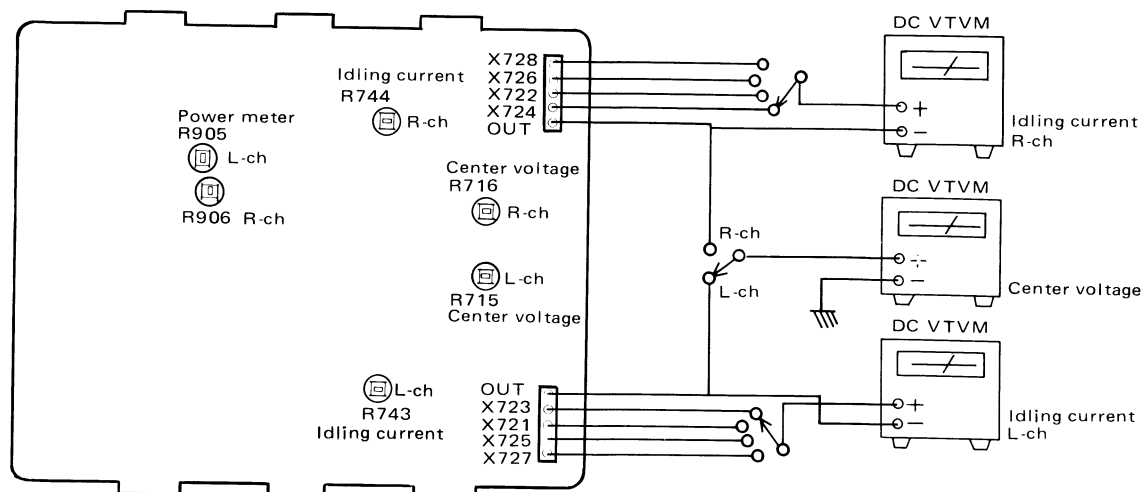

Fig. 23
1. Turn R743 and R744 fully counterclockwise before pressing the power switch on. Refer to Fig. 23.
2. Connect a DC VTVM to test points "X723, 721, 725, 727" (X724, 722, 726, 728). Refer to Fig. 23.